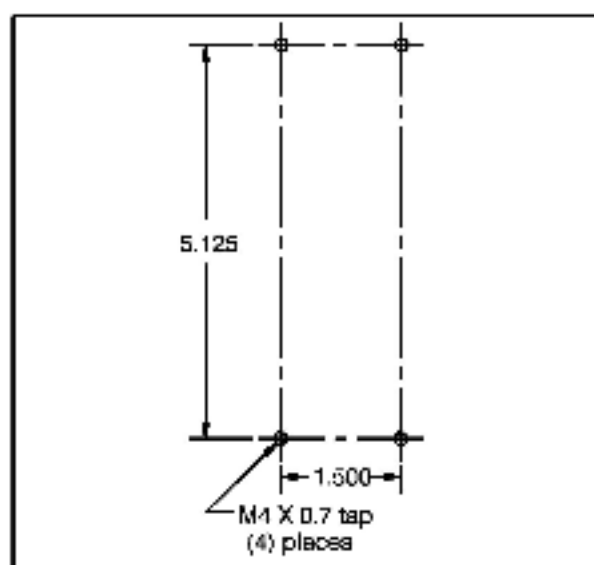

Figure 1. Circuit Breaker Mounting Hole Dimensions.
2. In the selected mounting location, tap four holes as detailed in Figure 1. Mount the circuit breaker with the four (4) M4x80 SHCS screws provided.